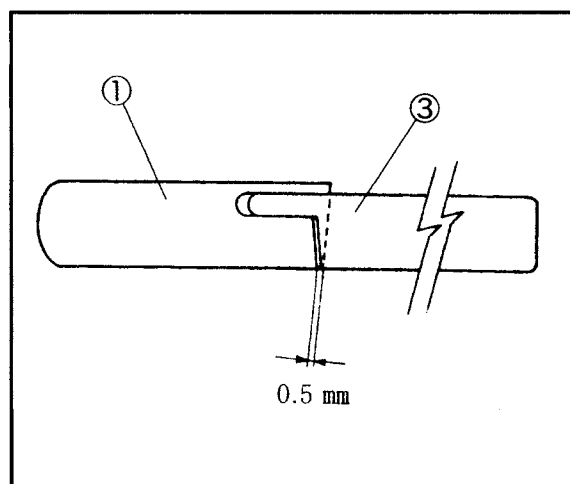

Fig. 40
For the standard position of the upper knife③, engage between the upper knife③and lower knife①to 0.5 mm when the upper knife③is at the extreme left. (Fig. 40)
上刀的轉接位置當上刀③在最左邊時，上刀③和底刀①要有0.5 mm的重疊。(Fig. 40)